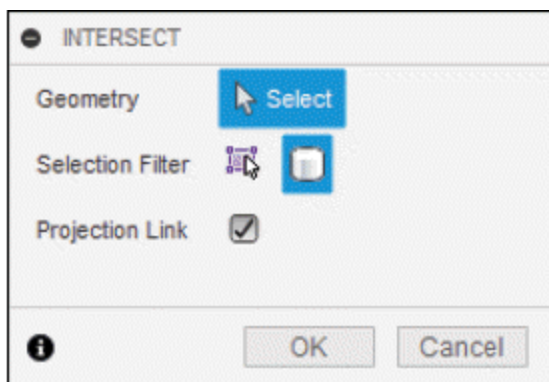

Figure-147. INTERSECT dialog box
- Click on the **Intersect** tool from **Project/Include** cascading menu of the **CREATE** drop-down in the **Toolbar**. The **INTERSECT** dialog box will be displayed; refer to Figure-147 and you will be asked to select the objects that are intersecting with current sketching plane.